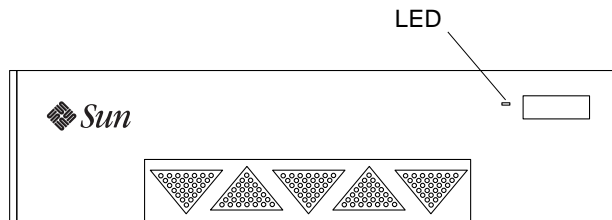

FIGURE 1-1 Front View of the System
- FIGURE 1-1 shows the front view of the system.